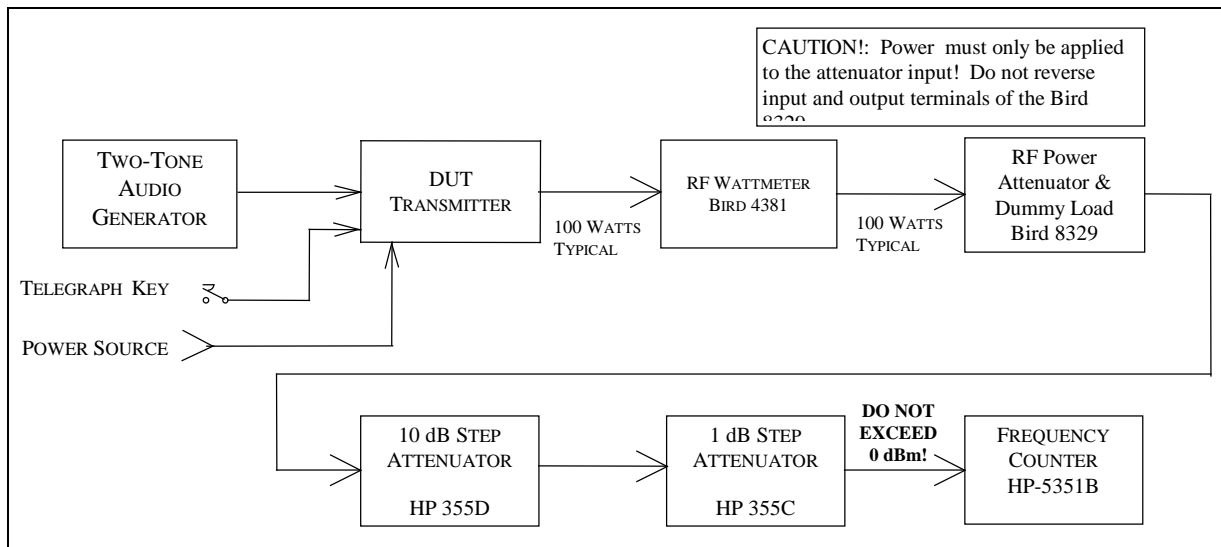

Fig. 4-3 — CW Transmit Accuracy Test Hook-up
4.3.2 TEST HOOK-UP (See Fig. 4-3)